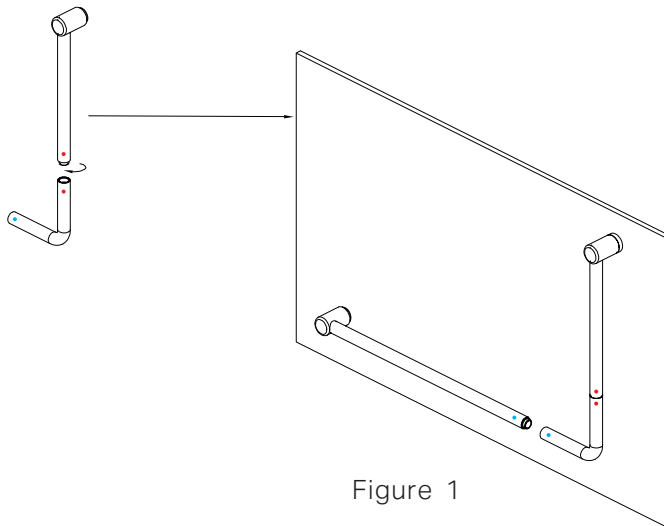

Figure 1
6. Connect the Vertical Grab Bar (with the red sticker) to the Connecting Elbow with the red sticker on one end as shown in the figure 1. This is the correct connection.